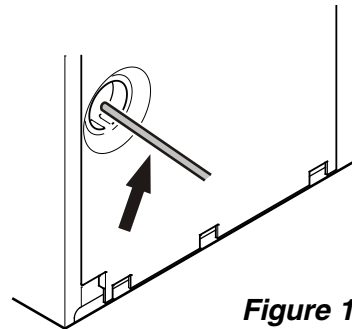

Figure 14
2. Insert the water supply line into its intended opening at the back of the appliance (**Figure 14**).